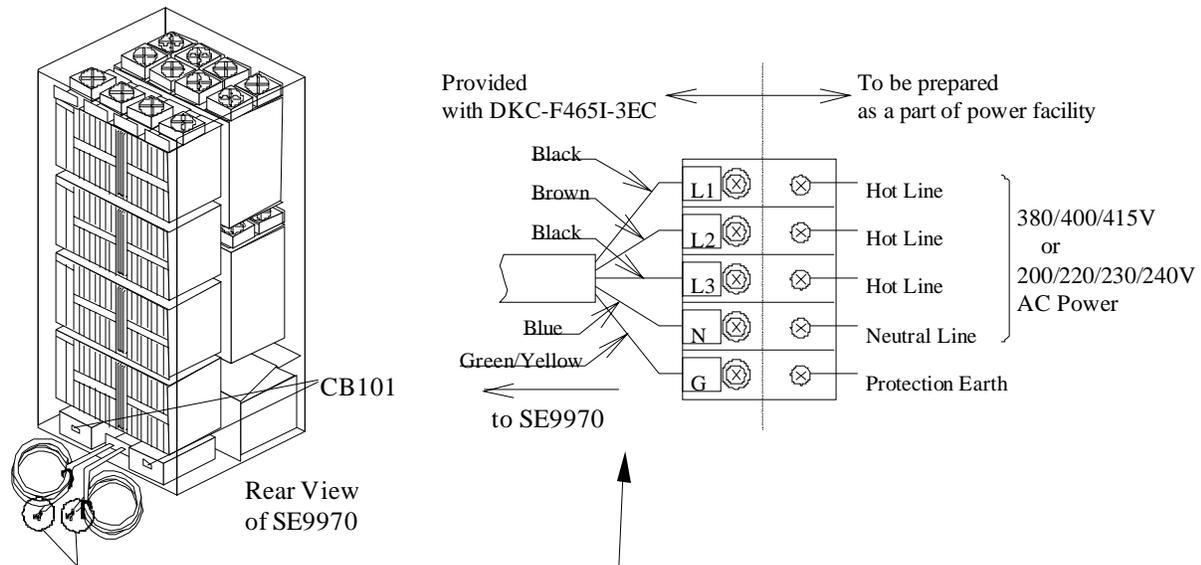

Figure 28 Power Plugs for Three-Phase Sun StorEdge 9970 System (Europe)
- Figure 28 illustrates the power plugs for a three-phase Sun StorEdge 9970 system (Europe).